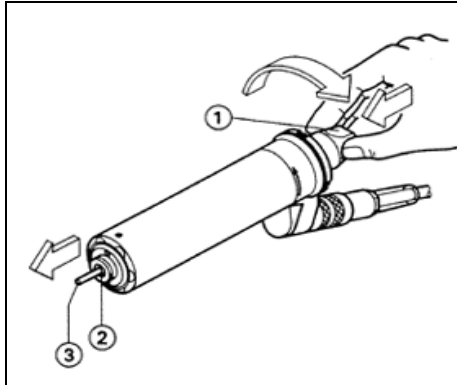

Figure 11.1
As shown in Fig. 11.1, press the knob on top of the motor ① then rotate in the direction indicated by ⇨ until the clamp ② releases the cutter ③.